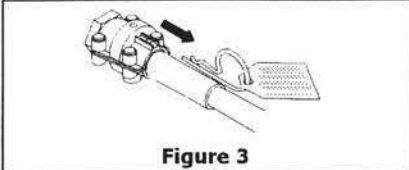

Figure 3
STEP 1. Remove hitch pin from helm (See Figure 3)